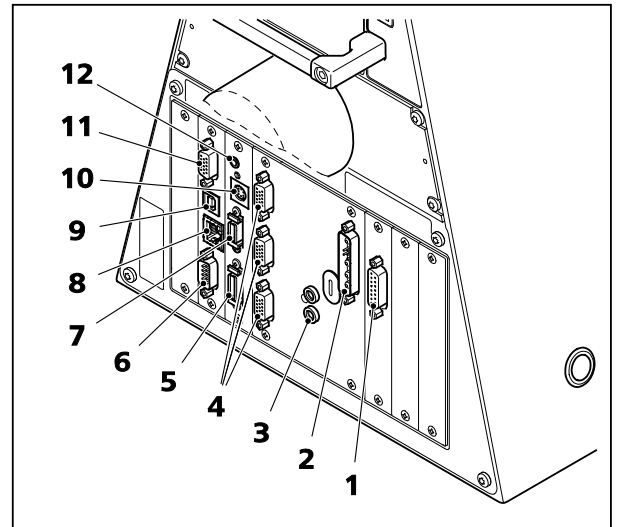

Fig. 45 Axio Observer 7, 7 materials (rear)
Key to Fig. 45:
- Insert the connecting plug of the power supply unit VP232-2 into the corresponding socket (Fig. 45/2) on the rear side of the stand.